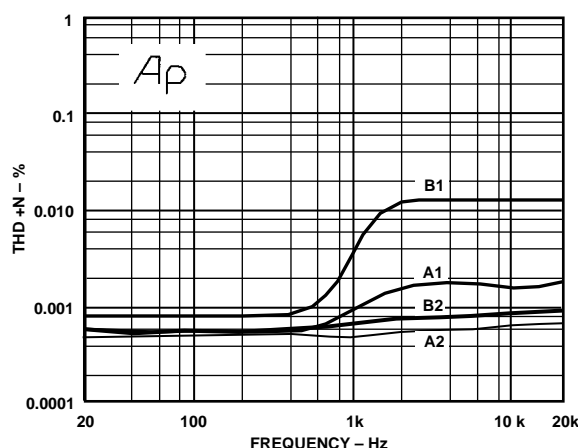

Figure 46. THD + N (%) vs. Frequency for Various 1 kHz HP Active Filters Illustrating the Effects of the  $Z_{COMP}$  Network
A more subtle form of ac degradation is also possible in these filters, namely nonlinear input capacitance modulation. This issue was previously covered for general cases in the section on minimizing distortion. In active filter circuits, a fully compensating network (for both dc and ac performance) can be used to minimize this distortion. To be most effective, this network ( $Z_{COMP}$ ) should include R1 through C2 as noted for either filter type, of the same style and value as their counterparts in the forward path. The effects of a  $Z_{COMP}$  network on the THD + N performance of two 1 kHz HP filters is illustrated in Figure 46. One filter (A) is the example shown in Figure 44a (Curves A1 and A2), while the second (B) uses RC values scaled 10 times upward in impedance (Curves B1 and B2). Both filters operate with a 2 V rms input,  $\pm 18$  V supplies, 100 k $\Omega$  loading, and analyzer bandwidth of 80 kHz.